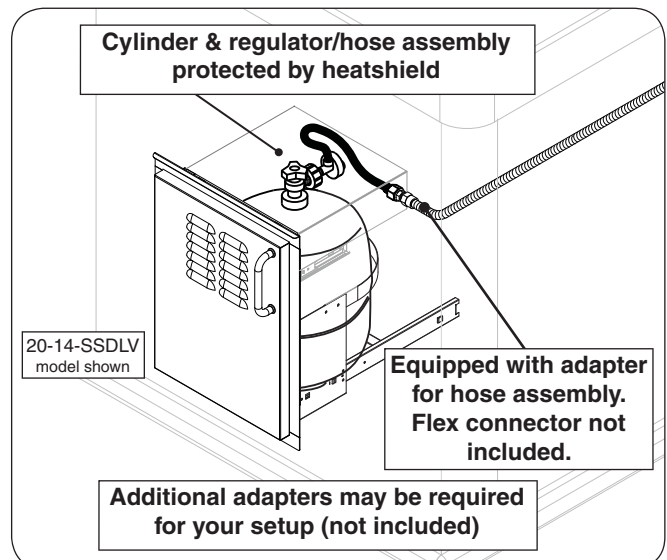

Fig. 12-3 Optional AOG door w/ tank tray
- **AOG offers propane tank door with tank tray models and a propane tank heatshield that rests directly on the tank to meet the cylinder install requirements. Propane tank door with tank tray shown in Fig. 12-3. Contact your dealer for ordering information.**